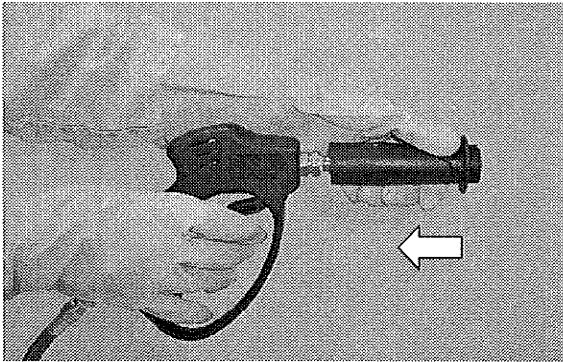

FIG. 16
1. Adjust spray gun to high pressure by pulling spray nozzle inward (Figure 16).